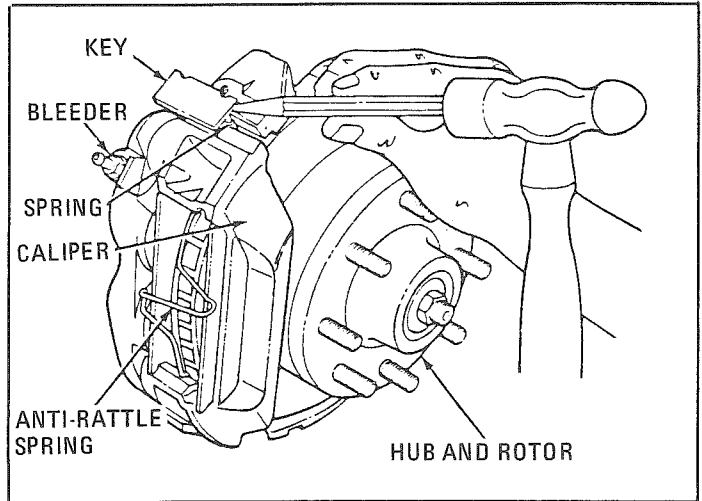
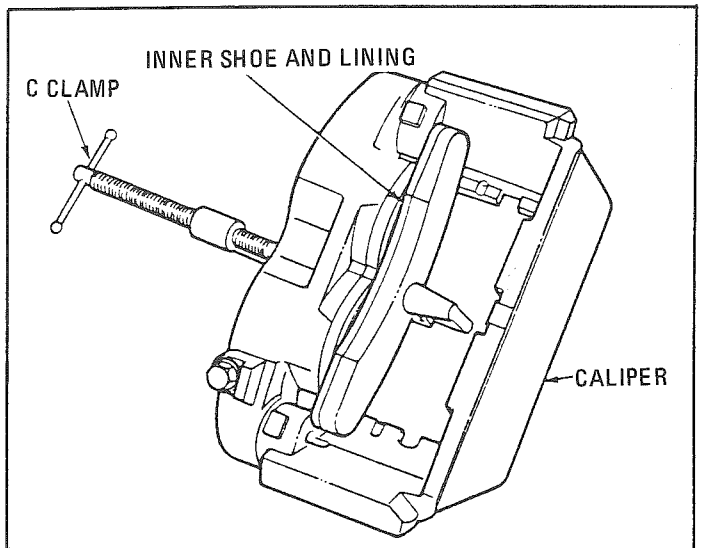

Figure 156 – Removing Spring and Key
Figure 157 – Bottoming Caliper Pistons
4. Using a brass rod and light hammer, drive out the key and spring, (see figure 156). It is not necessary to disconnect the hydraulic line to the caliper.
- Place a C-clamp on the caliper housing midway between the piston bores, (see figure 157), and using the old inner shoe and lining over the pistons, tighten the clamp to bottom the caliper pistons in the cylinder bores. Remove the clamp and the inner shoe lining assembly.
- Position the key and spring, (figure 156), and hand start the subassembly between the caliper and support. Note that the spring is between the key and caliper and that the spring tangs overlap the end of the key, (figure 157). Use a brake adjusting tool or screwdriver to hold up the caliper, if required, against the support assembly.